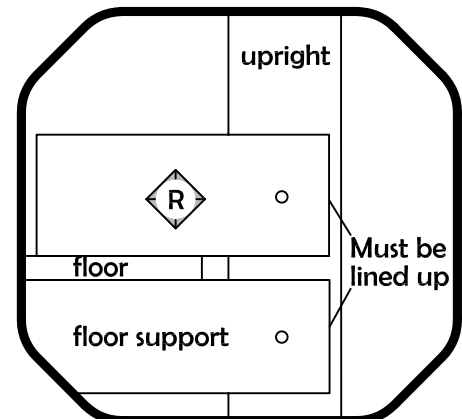

FIG. 6
Step 1: Gather (2) Fort Rails 'R', (4) Fort Rails 'Q' & (3) Fort Rail 'O'.
Step 2: Attach Fort Rails 'R' to Uprights shown, flush with the top of floor and even with floor support w/ 1 1/2" tapping screws as shown. (see fig. 6)
Step 3: Attach (1) Fort Rail 'O' to back uprights, flush with floor and (2) flush with top wall rails w/ 1 1/2" tapping screws as shown. (see fig. 6)
Step 4: Attach Fort Rails 'Q' to Uprights shown, flush with the top of floor and even with floor support w/ 1 1/2" tapping screws as shown. (see fig. 6)